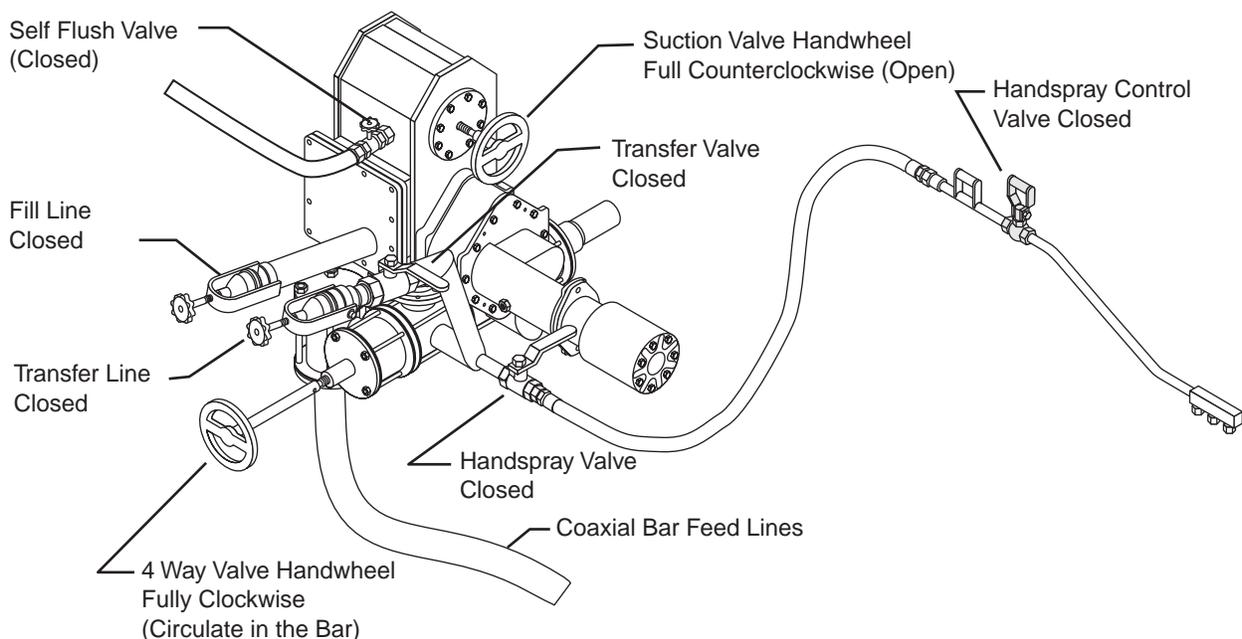

Figure 7. Valve Positions for Suckback
1. Set all of the valve positions. (see Figure 7)